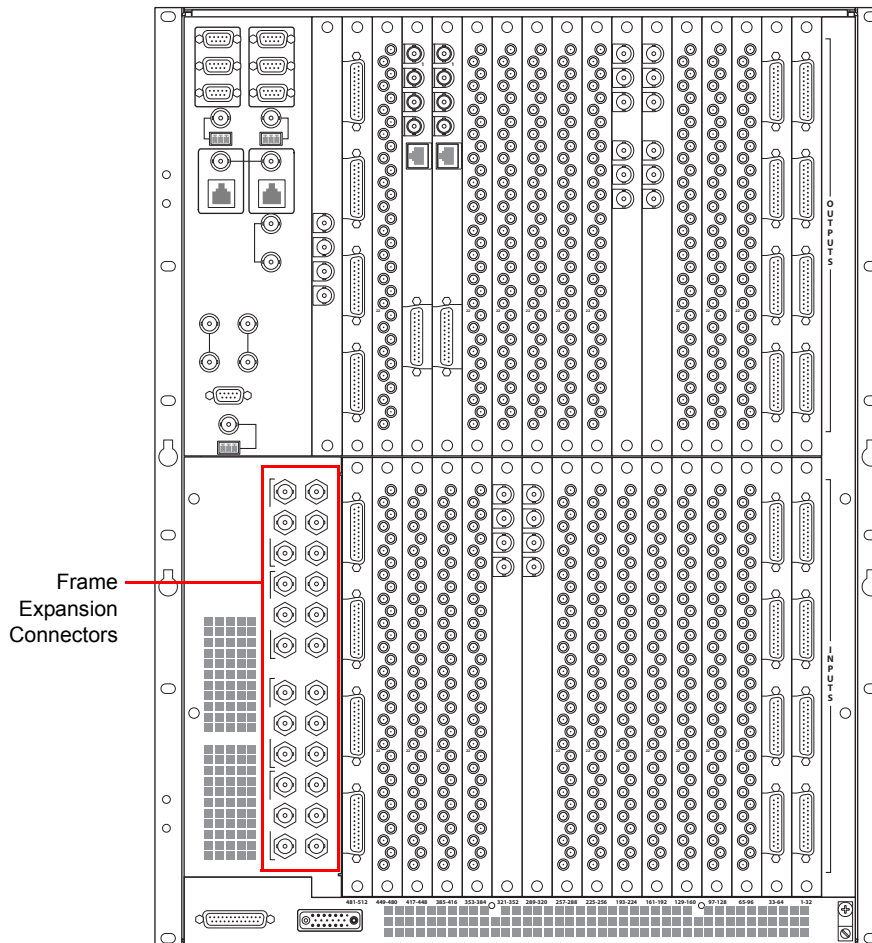

Figure 2-15. Signal Expansion Connections (Rear View)
- 1 Locate the signal expansion connections on the rear of the router, as shown in Figure 2-15.